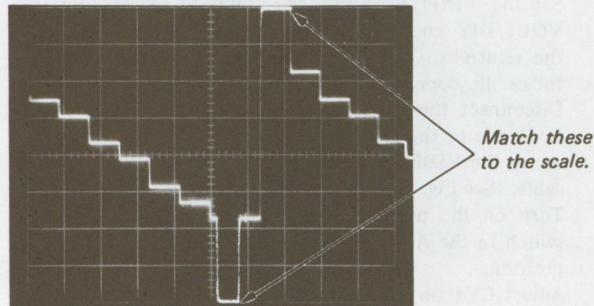

Fig. 5-31.
3. Connect the probe of the oscilloscope to TP 1 on the Q board. Adjust the vertical amplitude (VOLTS/DIV, VAR knobs) of the oscilloscope so that the output waveform is on the full scale. (See Fig. 5-31.)